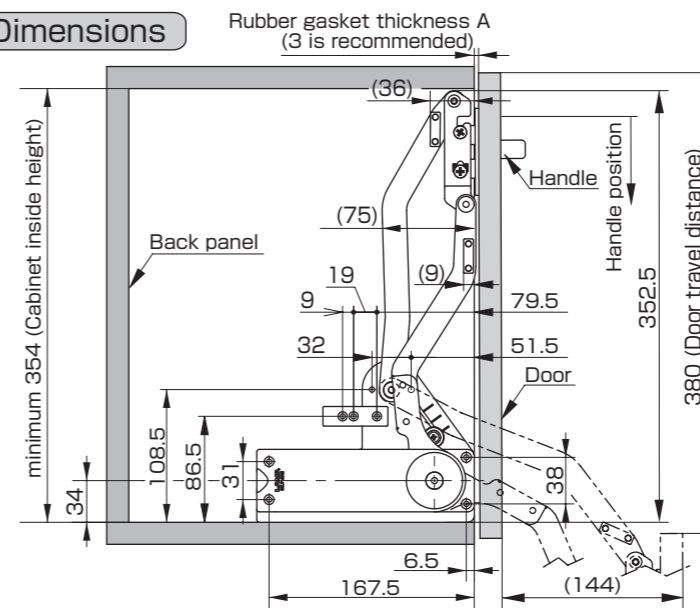

Fig. 3-1. Dimensions (SLD main body)
※取手は、③座金の上端を限度に、なるべく下に取り付けてください(図3-1)。
- (1) Line up SLD body ① and ② with the bottom and front of the cabinet and secure with screws ⑤ (Fig. 3-1 and Fig. 4).
- (1) Hang the door through the long hole using a screw ④ in the top bracket ③ hole and tighten the screw.
- (2) Secure assembly with a screw ④ through the bottom hole.
Remark: when installing the handle on the door, we recommend that it is installed in a position lower than bracket ③ as shown on Fig. 3-1.